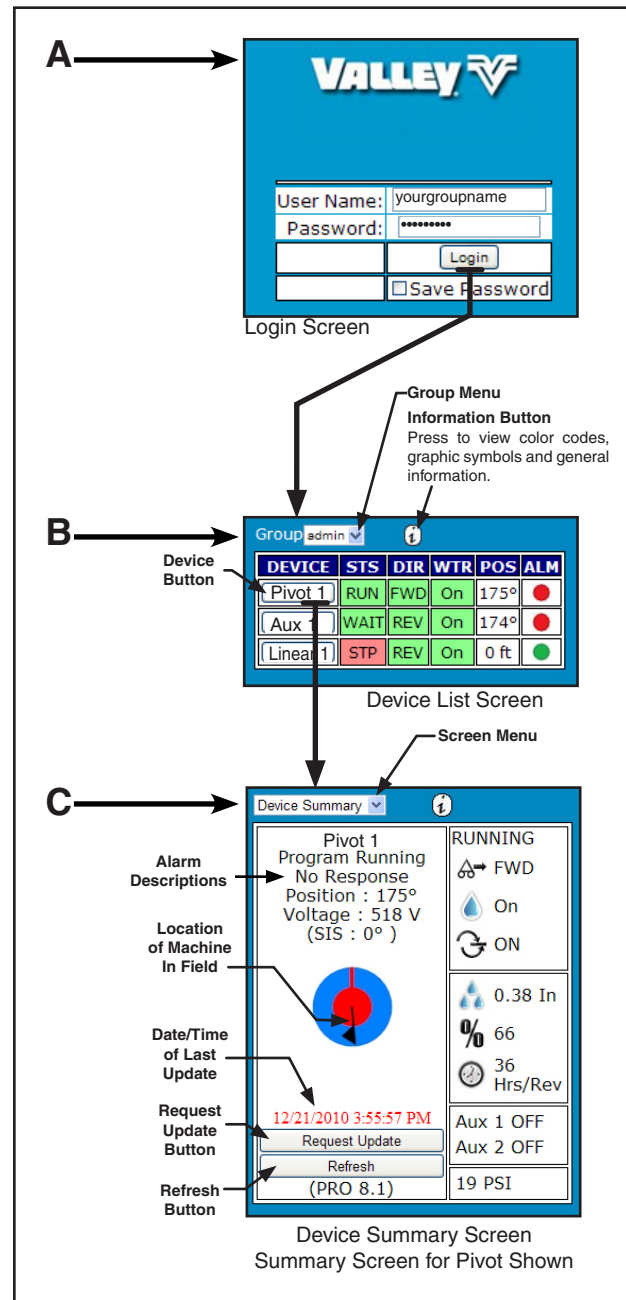

Figure 80-1
2. At the Login screen enter your User Name and Password. See figure 80-1-A.
3. Press Login button and the Device List is displayed. See figure 80-1-A.
Shows the last reported status of each device for all machines or machines in a selected group. See figure 80-1-B.
- Press a Device button to display the Device Summary for that device. See figure 80-1-B and 80-1-C.